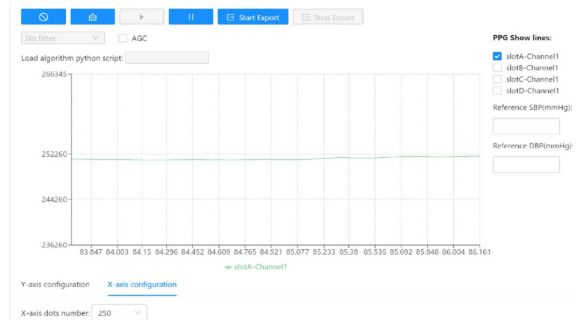

Figure 43. DC Waveform
- On the EVAL-ADPD7000Z, place a white reflective card before LED and PD pair to get a DC waveform (see Figure 43) that can be used to measure the performance of the system such as signal-to-noise ratio (SNR), noise, and ambient light rejection (ALR).